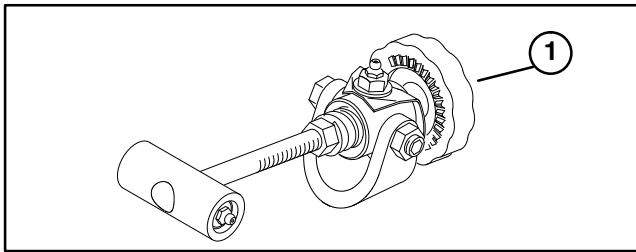
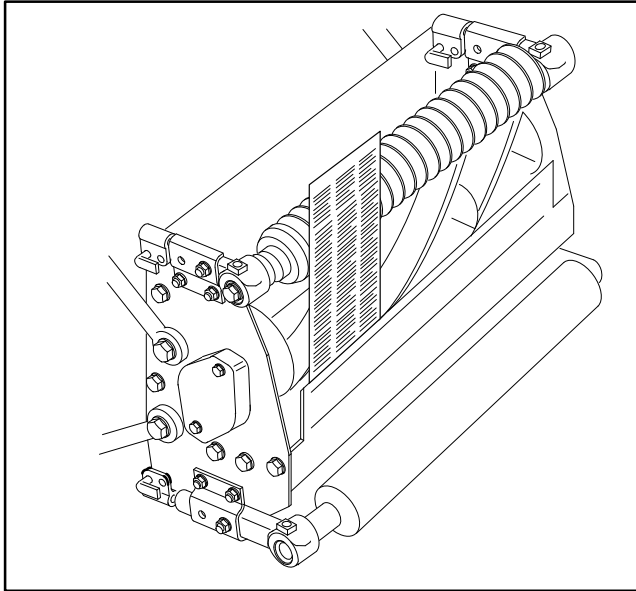

Figure 2
Figure 3
ADJUST BEDKNIFE PARALLEL TO REEL (Fig. 2–3)
1. Make sure reel contact is removed by turning bedknife adjustment knob counterclockwise (Fig. 2). Tip cutting unit to gain access to reel and bedknife (Fig. 3).